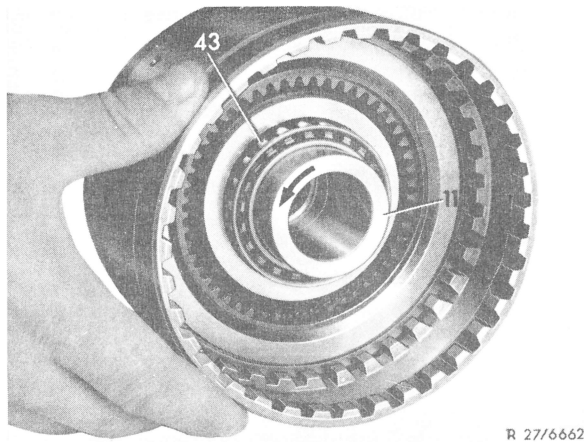

Fig. 16
26 Insert hollow shaft (11) into free-running assembly (43) while rotating hollow shaft in direction of arrow (Fig. 16).
Caution: Upon insertion of hollow shaft, the shaft should lock opposite to the direction of the arrow shown in Fig. 16.